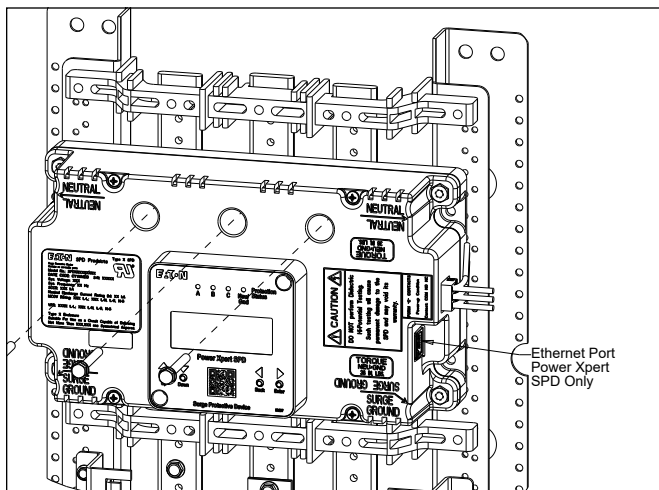

Figure 5. Bus bar extension bushing
5. Install the bus mount fasteners and tighten to 4.1 N·m (36 in-lb). See Figure 5.